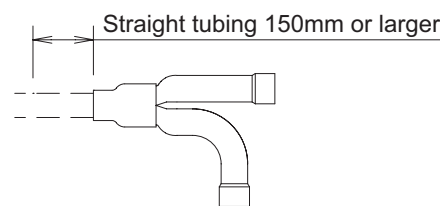

Fig. 2-262
- For branching tubes, install 150mm or larger (including reducer) straight tubing up to the point where the tube branches (or after the point where the tubes join together). (Fig. 2-262)